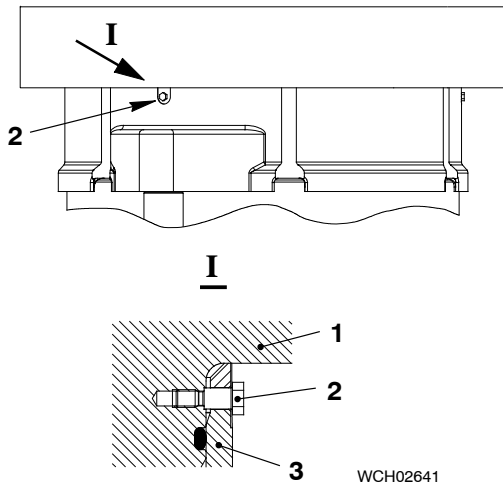

Fig.4
- 1) Remove the three screws (2, Fig.4) to loosen the top water guide jacket (3).